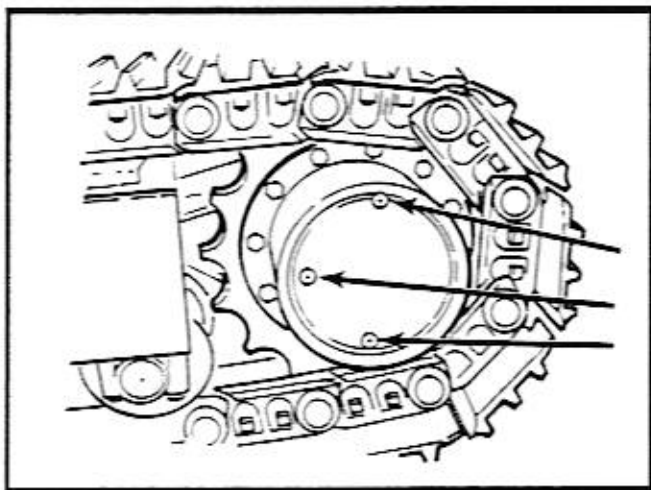

Figure 9-2. Track Drive Planetary
1. Rotate the track planetaries until the plugs are in the 12 o'clock, 6 o'clock and 3 o'clock or 9 o'clock positions. Refer to Figure 9-2.